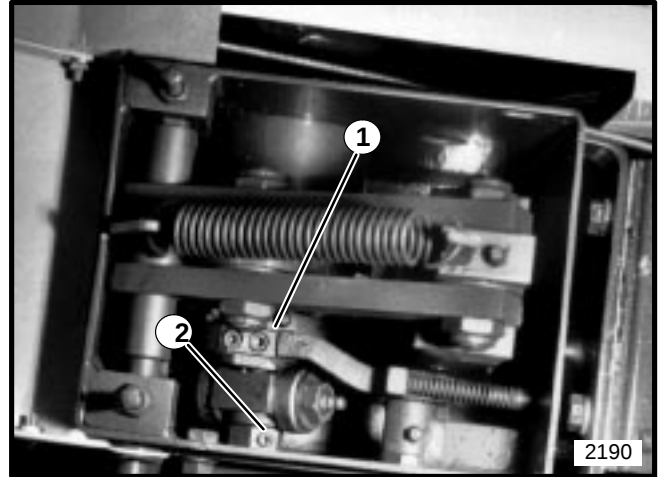

FIGURE 19
2. Remove set screws and brass plugs in the adjusting nut. Refer to Figure 19.